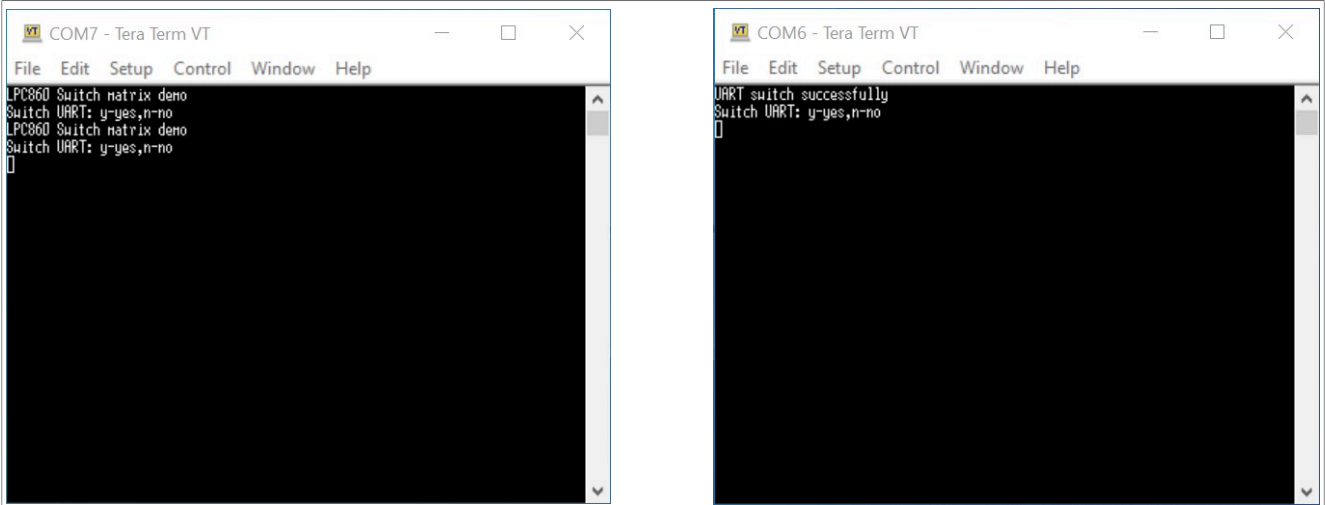

Figure 6. Tera Term communication
- When "y" is printed in Tera Term COM6, the UART0 switches back to PIO1_16/PIO1_17, as shown in Figure 6.